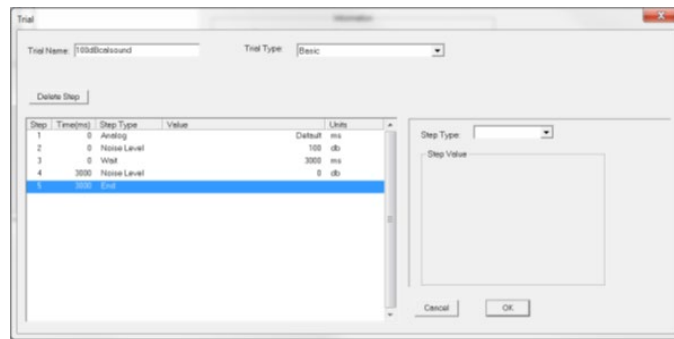

Figure 121 CalSound Trial Screen Example
3. Name the trial **100dBcalsound** and fill out the trial as shown in Figure 121.